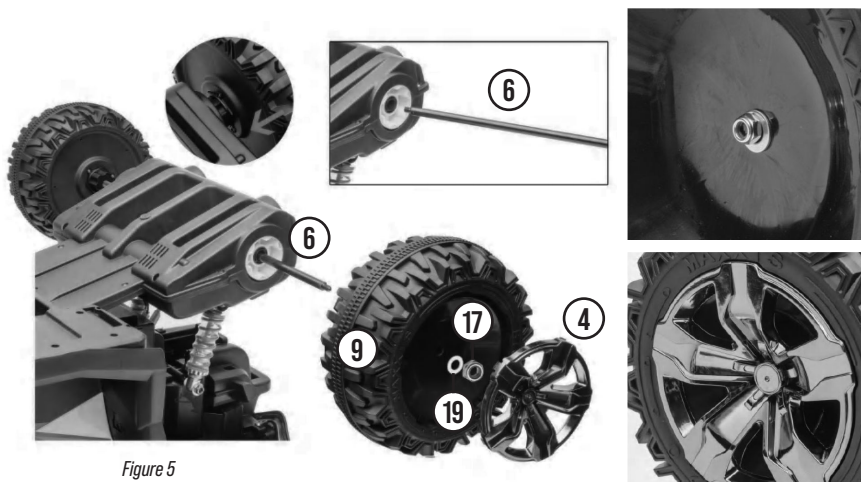

Figure 5
- Find Part 6 [Rear Axle] and insert through motor assembly as shown in Figure 5. Install Part 9 [Rear Wheel] first onto the rear axle, follow by Part 19 [$\Phi 12$ washer], and Part 17 [$\Phi 10$ nut]. Repeat again on the other side. Completely tighten by turning both sides oppositely with the wrench provided. Lastly snap on Part 4 [Wheel Cover] onto the wheels. Please see figure 5.